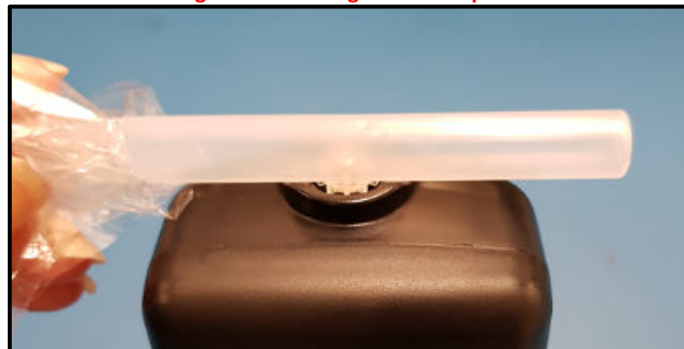

Figure 7 - Mouthpiece Correctly Positioned
- Press the mouthpiece sample inlet port onto the locator until it is attached securely (Refer Figure 7). The orientation of the mouthpiece will not affect the sampling.